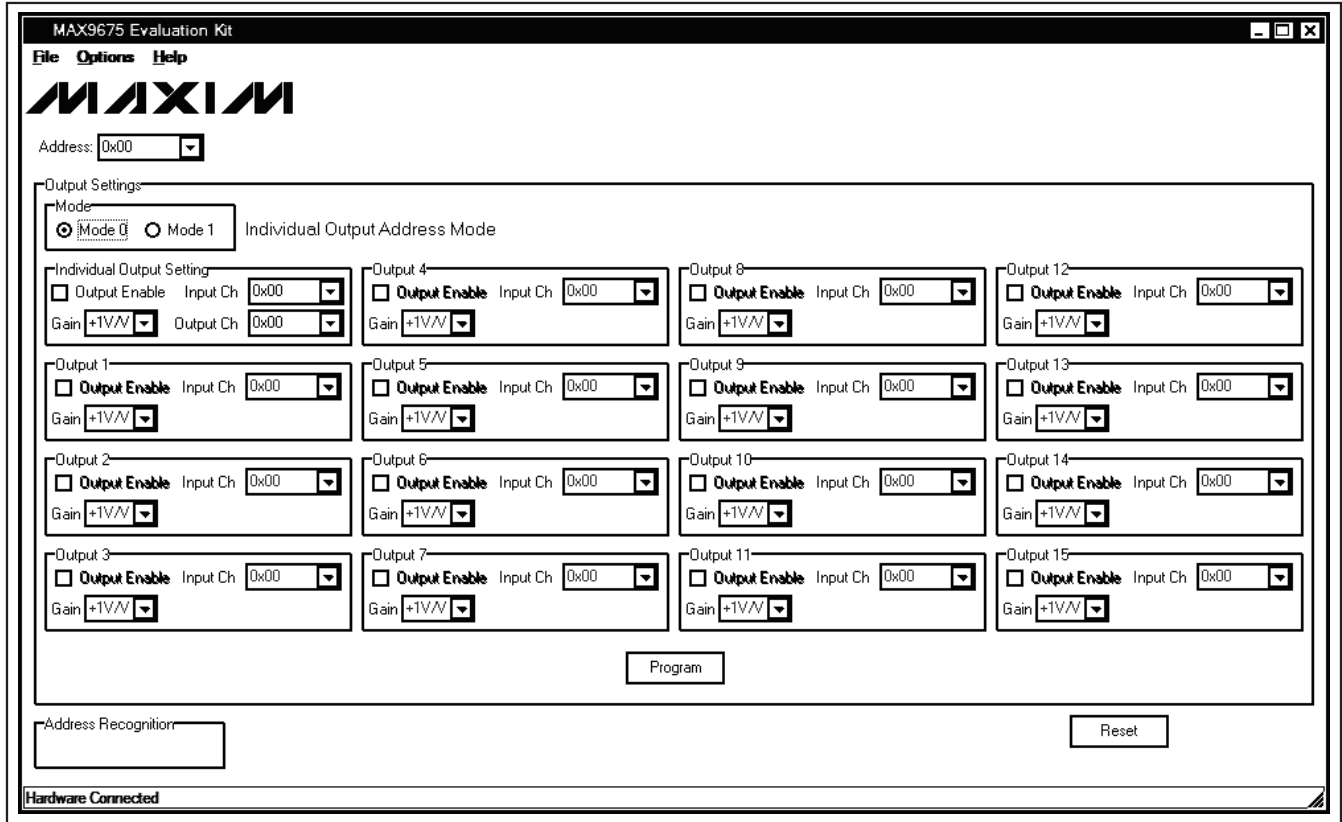

Figure 1. MAX9675 EV Kit Software Main Window (Individual Output Address Mode)
- 17) Start the MAX9675 EV kit software by opening its icon in the **Start | Programs** menu. The EV kit software main window appears, as shown in Figure 1.
The MAX9675 EV kit software main window shown in Figure 1 contains a device **Address** drop-down list, an **Output Settings** group box, an **Address Recognition** group box, and a device **Reset** button.